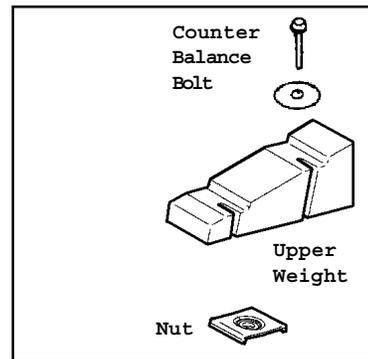

Figure 7-11
**NOTE:** *The bolts screw into two nuts below the weight, under the tub mounting pad (Figure 7-11).*